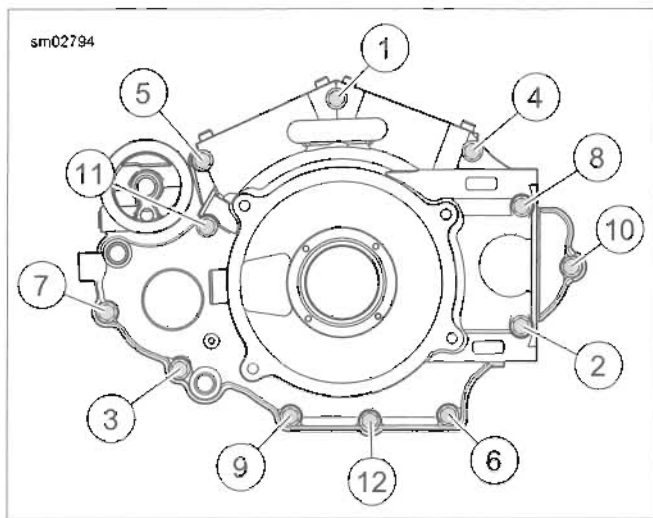

Figure 3-167. Tighten in Sequence Shown
8. See Figure 3-167. Start the twelve crankcase bolts and tighten in the following order.